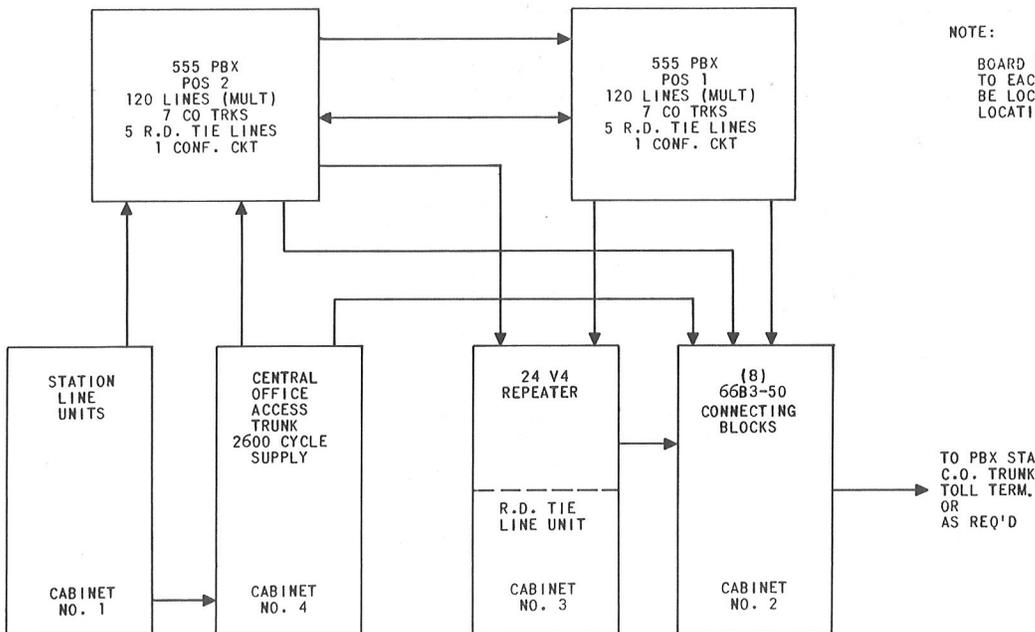

Fig. 5—Block Diagram for Specially Modified 555 PBX
**3.06** Figure 5 shows the interconnecting cables used to connect the equipment. Drawing B-659529-3 shows a more complete cabling diagram.